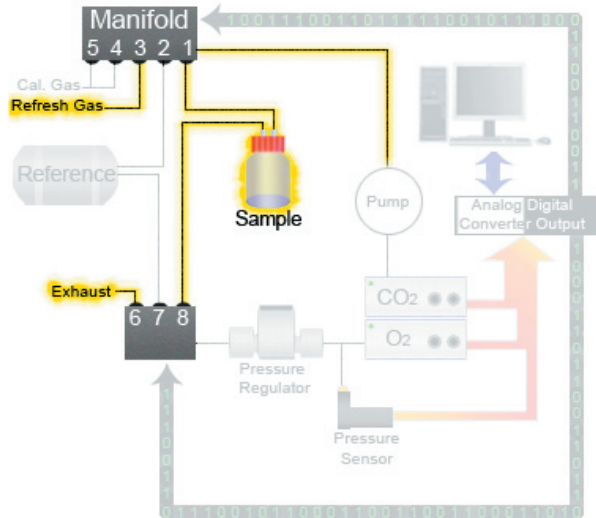

Figure 9
Step 4: Now that we have the volumes measured, we adjust them to STP (Standard Temperature and Pressure), and we refresh the Sample Chambers with fresh air (Figure 9). A custom mixed gas can be used instead of ambient air if desired. This can be in the form of a pre-mixed cylinder or a dynamic gas mixer (like our Pegas 4000MF). For multiple chamber systems, the Sample Chambers are refreshed individually so that the sample air between chambers is not mixed. At this time, the reference chamber is flushed with the same air (fresh air / mixed gas).